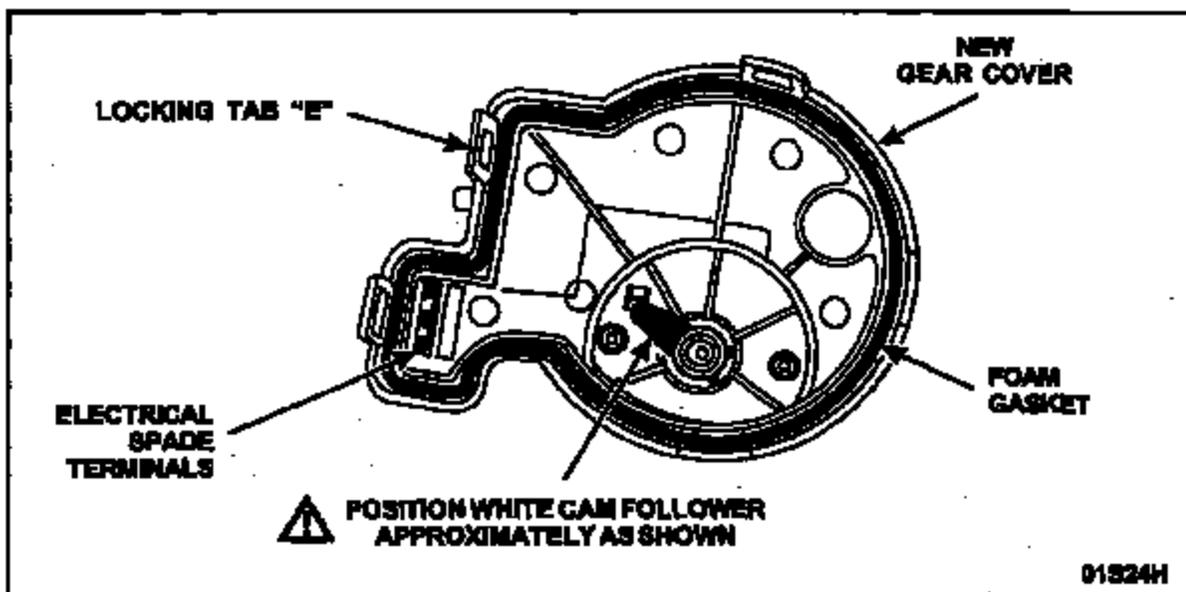

FIGURE 8
2. Verify that the three (3) electrical spade terminals are not bent. If necessary, straighten them so that they are perpendicular to the cover as illustrated in Figure 8.
3. Make sure that the foam gasket is properly seated in the new cover as shown in Figure 8.
4. Make sure that the white cam follower arm is positioned as shown in Figure 8.